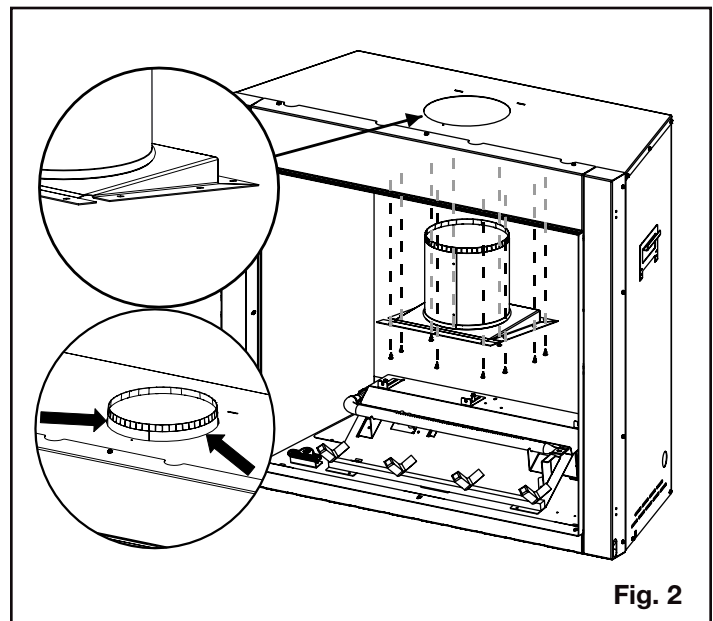

Fig. 2
4. Insert the vent kit assembly with the larger side of the housing to the rear of the appliance. **(Fig. 2)**
6. It is recommended to seal the gap between the collar and outer shell top with a bead of high temperature silicone. **(Fig. 2)**